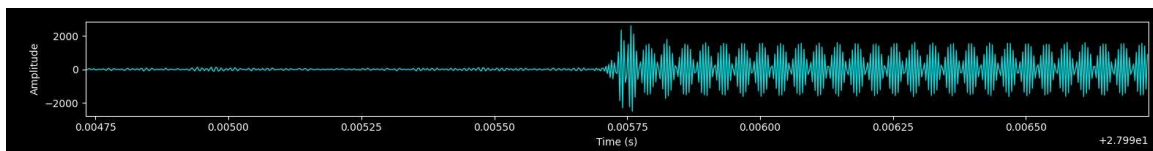

Figure 5: Amplitude Plot
1. The window begins at the beginning of the amplitude plot, see Figure 5: Amplitude Plot, and ends at the end of the amplitude plot.